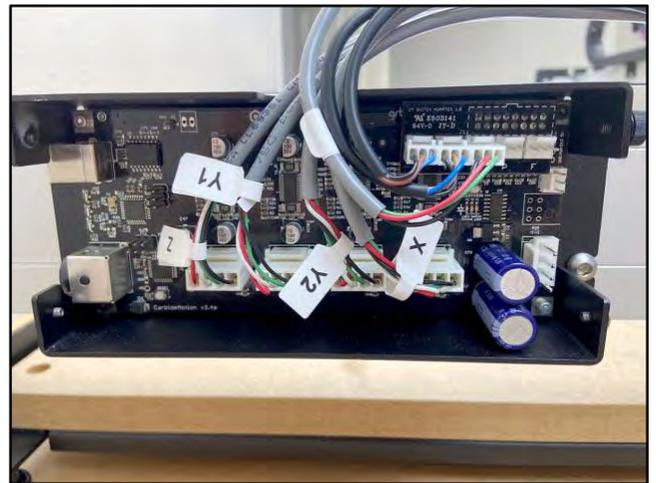

Figure 35
1. Plug the PCB riser board into the Carbide Motion board. See **Fig. 35**.
2. Plug the proximity switch cables and stepper motor extension cables into the Carbide Motion board. See **Fig. 35**.